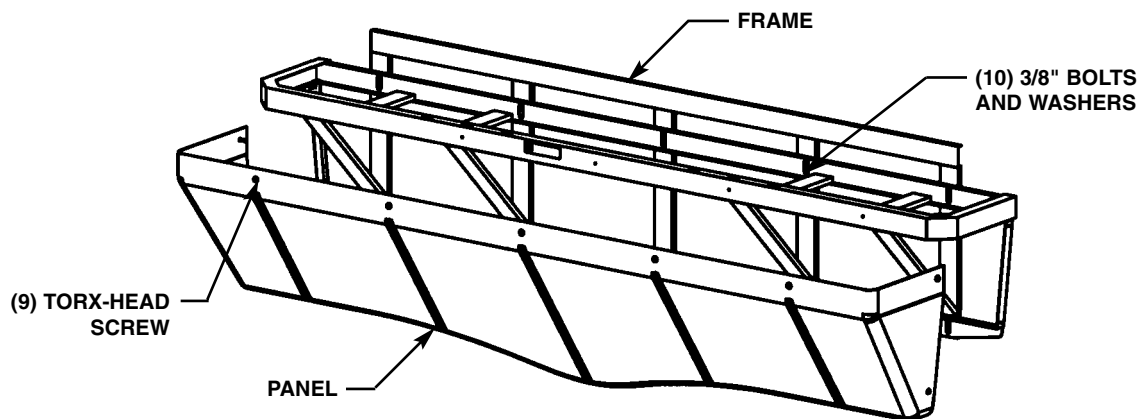
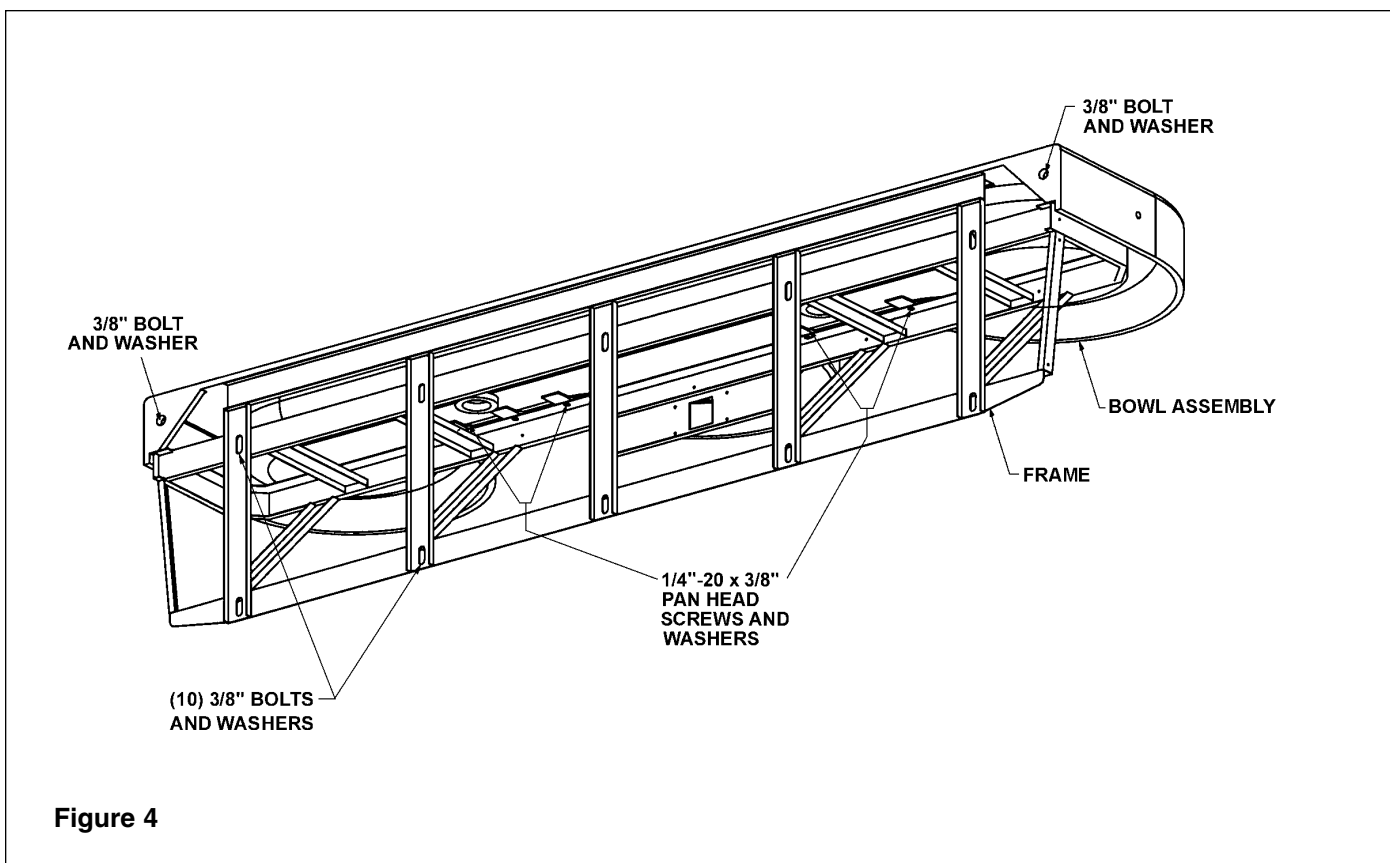

Figure 3
Figure 4
1. Remove the nine Torx-head screws securing the panel to the frame and remove the panel (see Figure 3).
4. Once you have positioned the frame such that it is level and flat against the wall or shimmed, use the 3/8" bolts and washers to mount the frame to the wall (see Figure 3 below and Figure 4 on page 7).
NOTE: Refer to Figure 4 below when installing the bowl assembly.
4. After testing is complete, reinstall panel to frame. Fasten panel with eight Torx-head screws provided (see Figure 3 on page 6).